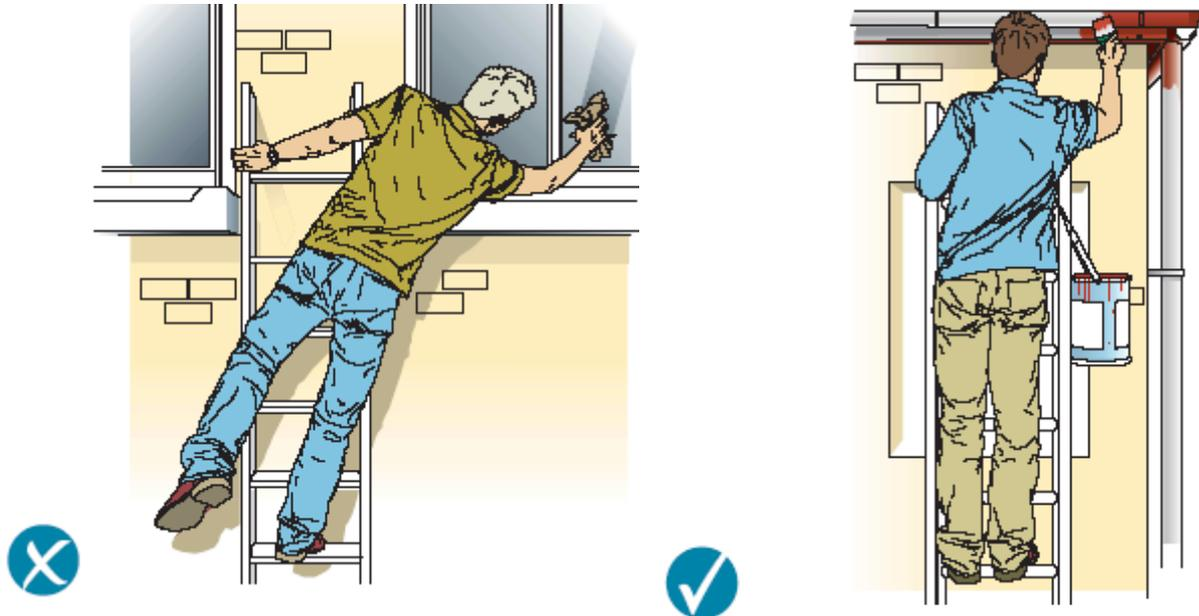

Figure 1a
- overreach - keep your belt buckle (navel) inside the stiles and both feet on the same rung throughout the task(see Figures 1a and 1b).